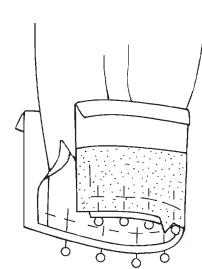

Fig. 11-7
4. Pin the notched edge of the cuff to the sleeve, right sides together, matching markings. Stitch. (Fig. 11-7)